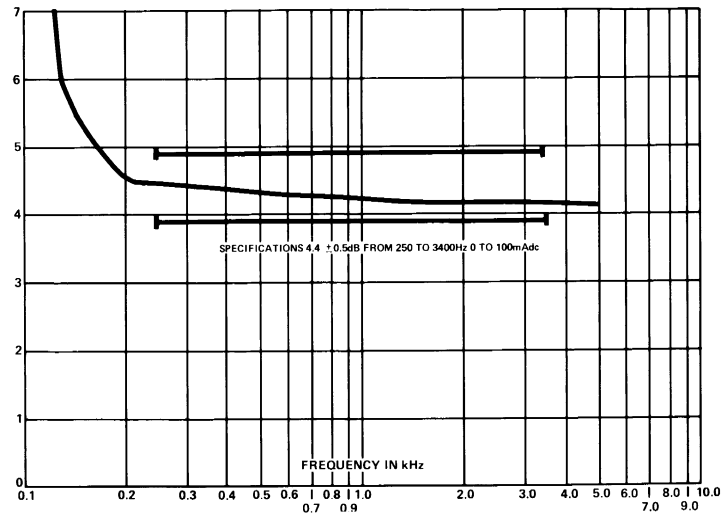

Figure 8. Hybrid Insertion Loss Specification Arranged for 900-Ohm 2-Wire Impedance
- (f) HYBRID INSERTION LOSS: Arranged for 900-ohm 2-wire impedance as shown in Figure 8.